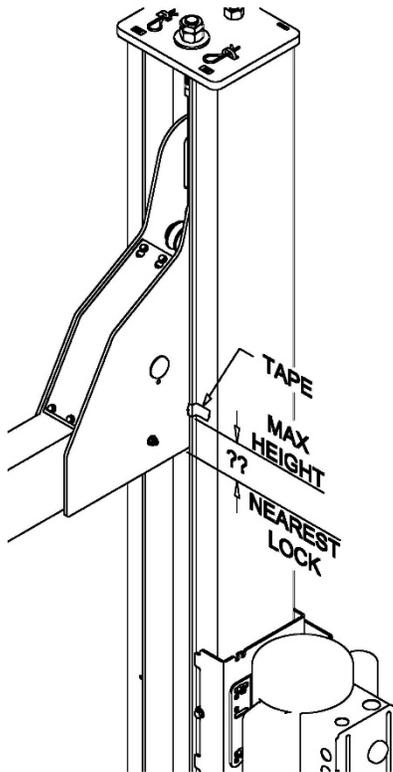

Fig 25 – Lock Clearance Measurement
- 72) Raise lift to the Max Height and place a piece of tape on the power column lined up with the bottom of the crossbeam. Lower the lift into the nearest lock position and measure from the bottom of the crossbeam to the tape, **Fig 25**.